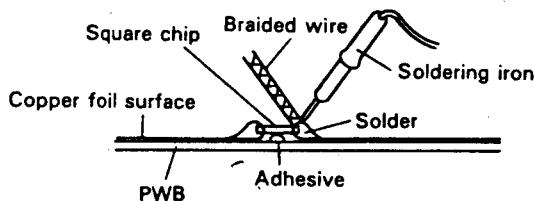

Figure 66.
1. Using a soldering iron, heat the solder at each terminal of the chip to get it absorbed into a braided wire applied thereon. See Fig. 66.